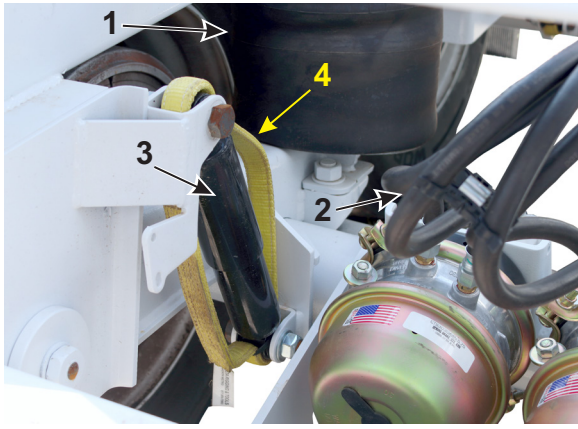

Figure 3-29 – Shock Absorber Safety Strap
13. If the belly dump trailer is equipped with an air-ride suspension, check the safety strap (2, Figure 3-29) around each of the rear axle shock absorbers (1, Figure 3-29) for signs of wear or damage. If any is noted, these straps must be replaced before continuing trailer operation.